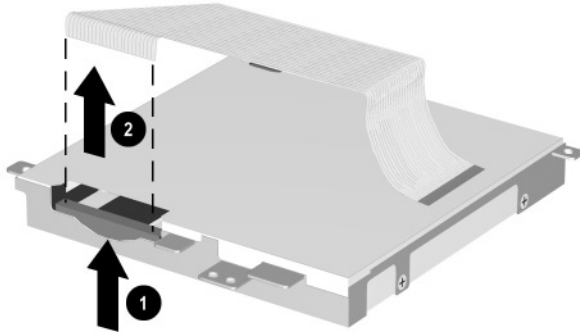

Figure 5-31. Removing the Diskette Drive Cable
6. Release the ZIF connector ❶ to which the diskette drive cable is connected and disconnect the diskette drive cable ❷ from the drive (Figure 5-31).